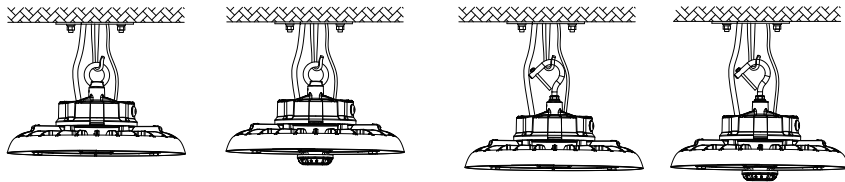

Figure 2
2. Hang the fixture from the ceiling hook or chain (refer to Figure 2).